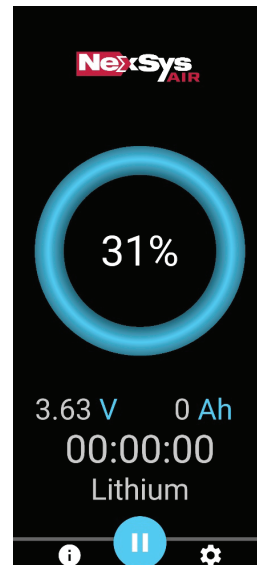

Figure 9
- Once the charger is stopped, it displays the SoC % and battery voltage on the main display. The dynamic circle turns blue. See **Figure 9**.